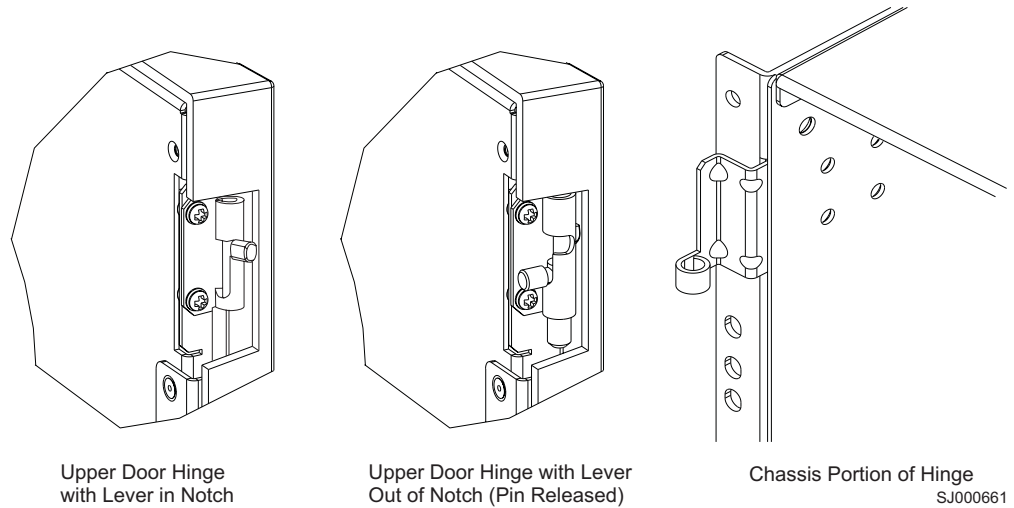

Figure 22. Removing the chassis door
- c. Push the spring-loaded lever on the upper hinge up and into the notch in the hinge. See Figure 22.